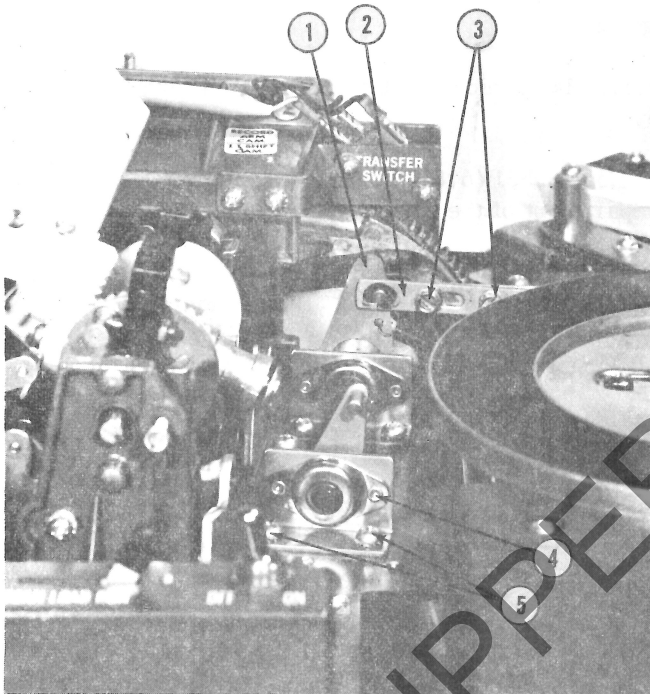

FIGURE 2
Should adjustment be necessary, loosen the two mounting screws (fig. 2, item 5) and shift the position of the Pivot Bracket and Bushing (item 4) to provide specified clearance. Tighten mounting screws.
Manually position the shaft and lever (item 1, figures 2 and 3) to the left to provide zero clearance (just touching) between the Record Clamp (fig. 3, item 4) and the Record Disc (item 3).
Should adjustment be necessary, loosen the two hex head screws (fig. 2, item 3). Shift the position of the Link (fig. 2, item 2) to secure the specified penetration of the Record Disc into the confines of the Rollers.